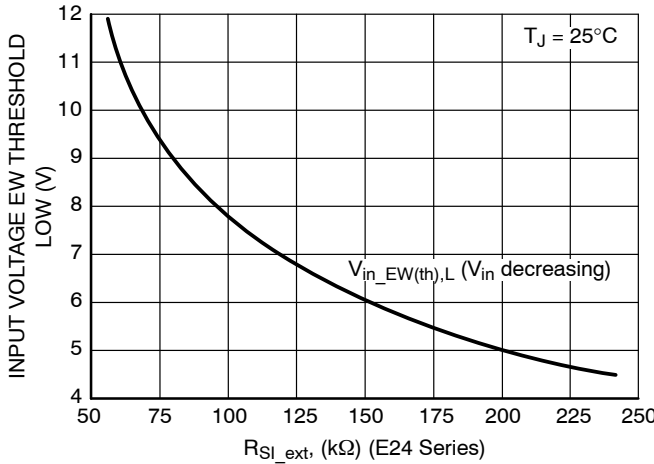
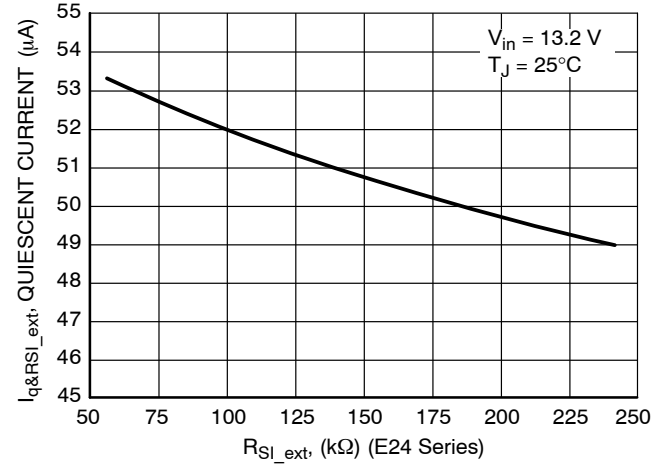

Figure 26. Input Voltage EW Threshold Low vs.
Figure 27. Quiescent Current vs. R_{SI_ext}
13. I_q for Preset EW Threshold Options is measured when R_{SI_ext} is not used. For typical values of I_q vs R_{SI_ext} see Figure 27.
Practically only preset options above 4.5 V can be used without R_{SI_ext} due to minimum operating input voltage value limitation. For other preset options the trip point has to be adjusted externally using R_{SI_ext} resistor connected between input monitor SI and GND (see Figure 1). For other preset options R_{SI_ext} has to be used to achieve $V_{in_EW(th)} > 5.5$ V (minimum operating input voltage value). The value for R_{SI_ext} is recommended to be selected in range from 50 k Ω to 250 k Ω and the trip point can be shifted according to Figure 26. In case of R_{SI_ext} values higher than 200 k Ω two resistors in series could be used in order to eliminate leakage current of the resistor and hence ensure precision of its resistance value. The higher is R_{SI_ext} the lower is overall Quiescent Current of the application (see Figure 27). General formulas for calculation of $V_{in_EW(th)Low}$ or R_{SI_ext}
The Sense Output is from an open drain driver with an internal 30 k Ω pull up resistor to V_{out} . Figure 26 shows the SO Monitor timing waveforms as a result of the circuit depicted in Figure 1. If the input voltage decreases the output voltage decreases as well. If the SI input low threshold voltage is crossed it causes the voltage on the SO output goes low sending a warning signal to the microprocessor that a reset signal may occur in a short period of time. T_{WARNING} is the time the microprocessor has to complete the function it is currently working on and get ready for the reset shutdown signal.